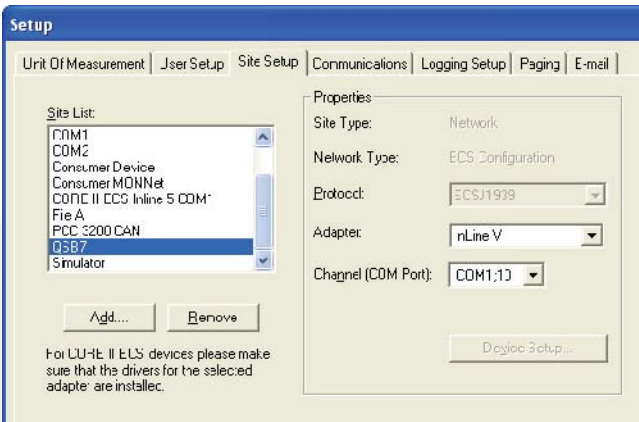

FIGURE 228. THE SETUP WINDOW
1. Go to **Start -> Programs -> Power Generation -> Setup**. The Setup window is displayed (Figure 228).